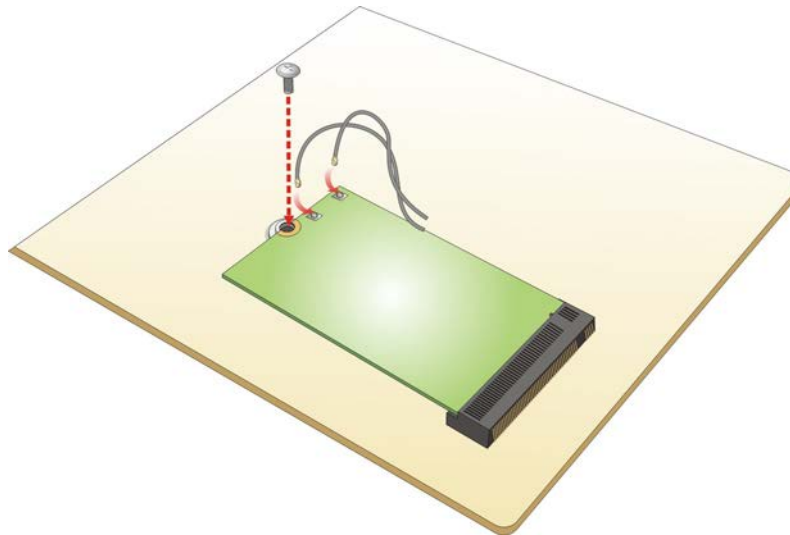

Figure 3-9: Securing WLAN Module and Connecting RF Cables
Step 5: Secure the WLAN module. Secure the WLAN module with the retention screw previously removed (Figure 3-9).
Step 6: Connect the two RF cables to the antenna connectors on the WLAN module (Figure 3-9).